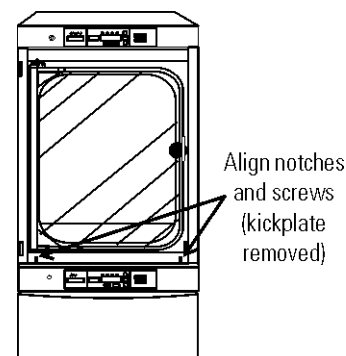

Figure 1-5. Align
2. Remove the kickplate from below the door on the top incubator (Figure 1-5). Two Phillips screws secure the plate. Note the notches at the base of the incubator frame.